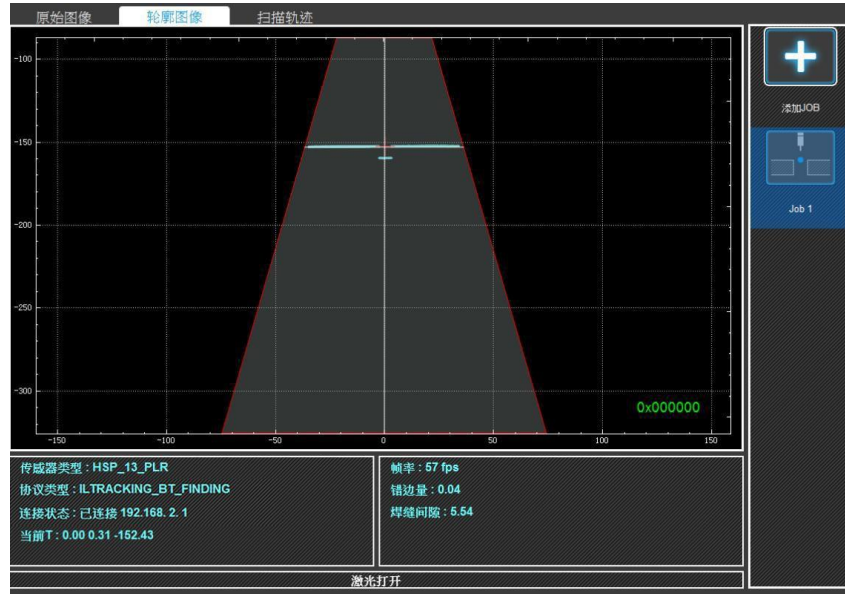

Figure 8-6 Sensor installation image diagram
- Step3. Adjust the sensor installation position so that when the robot is in the normal welding posture, the image TP feature point displayed by the software is in the central area as shown in the figure below. The image captured by the sensor in the correct installation position is shown in Figure 8-6.